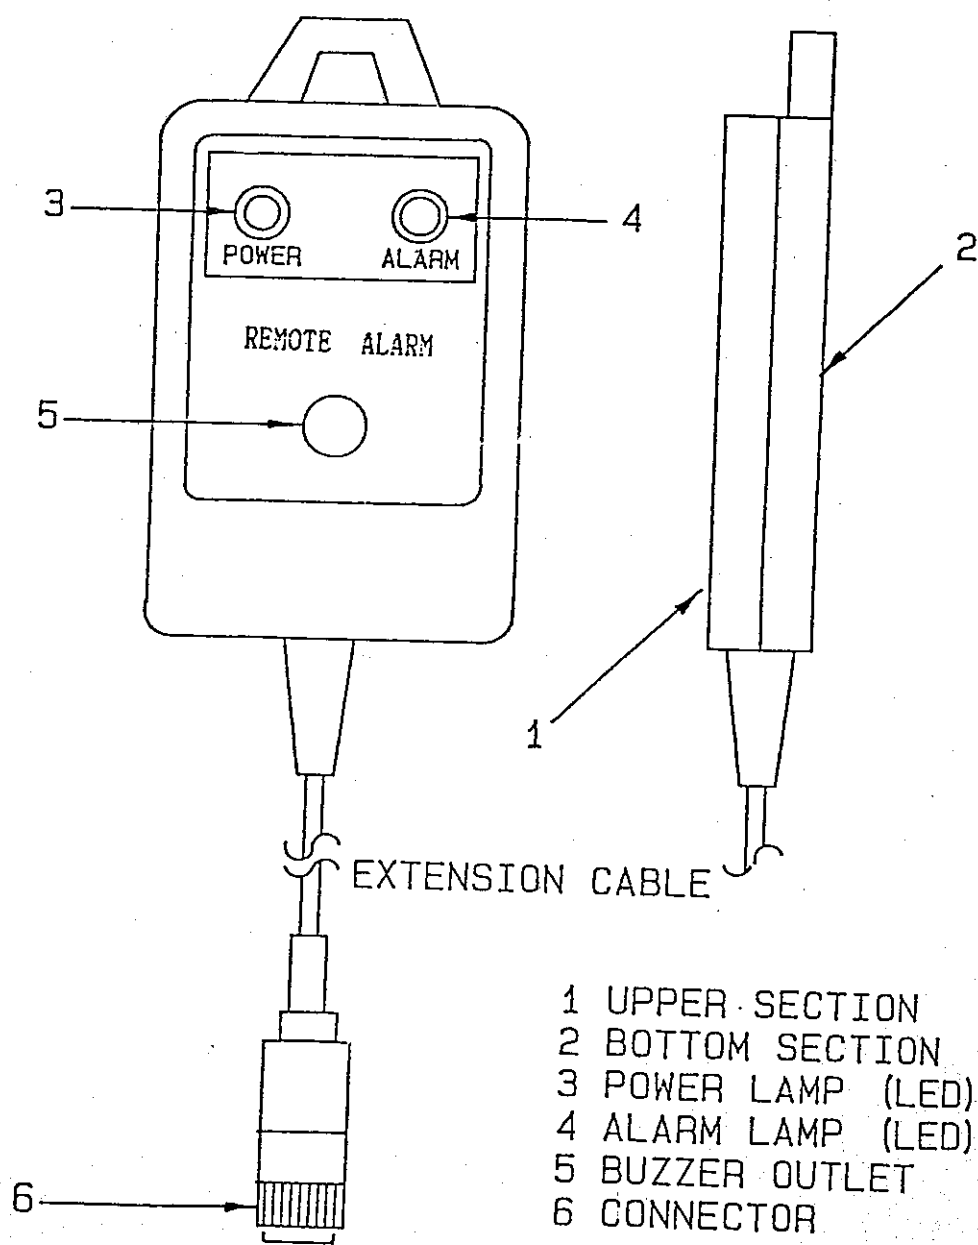

Fig. 3
2. Remote Alarm (See Figure 3)